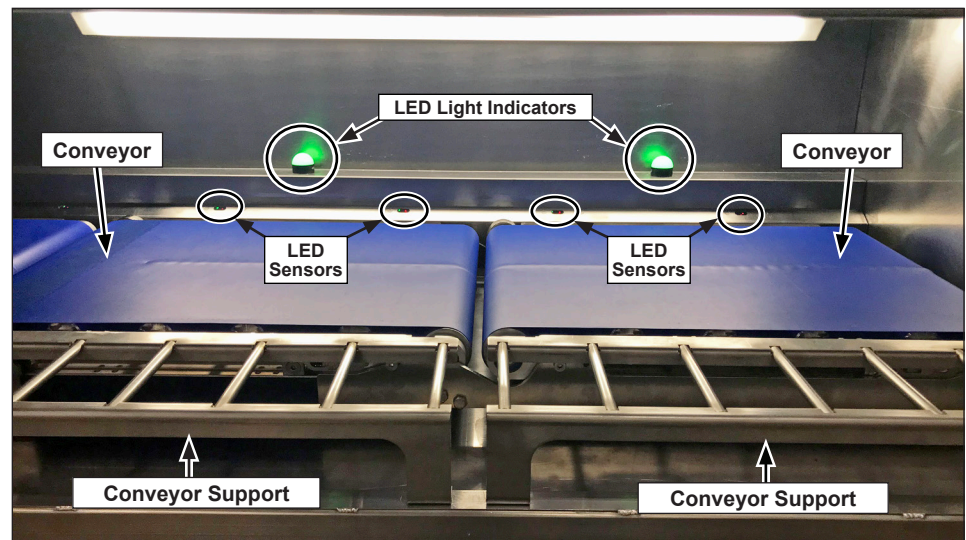

Figure 5. Inner Buffer Conveyor Components
1. Locate the conveyor supports (Figure 5). Grab the outer cross bars, lift up and tilt the support towards you to detach it from the conveyor. Set on clean work surface.